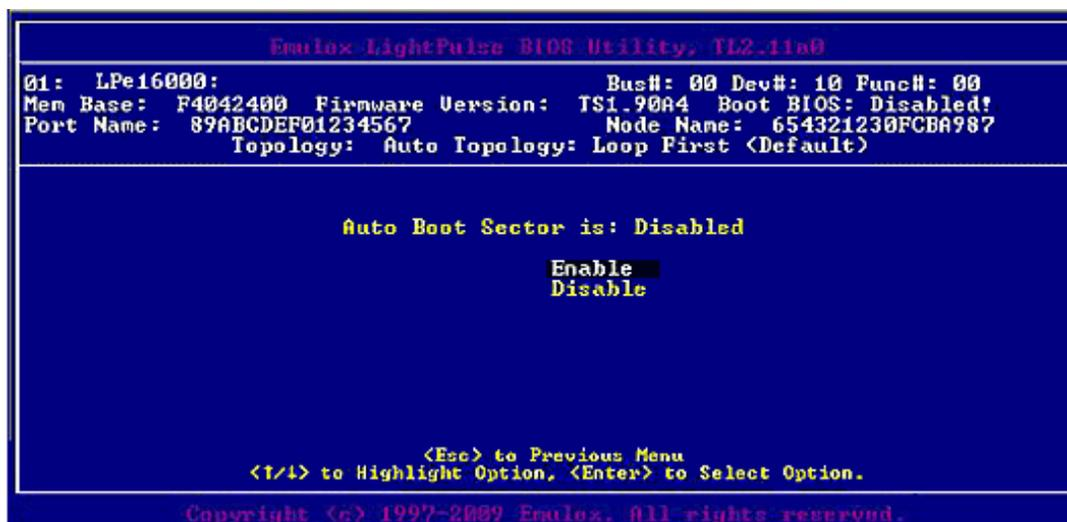

Figure 4-18 Enable or Disable Auto Boot Sector Format Select Screen
2. Select **Enable or Disable Auto Boot Sector** and press **<Enter>**. The Enable or Disable Auto Boot Sector Format Select screen (Figure 4-18 on page 41) is displayed.